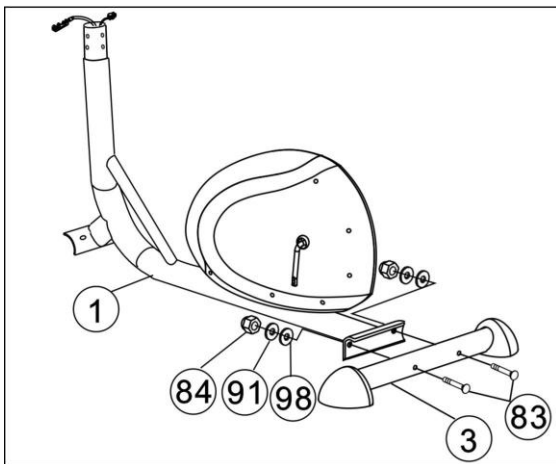

Figure 1
Attach the Rear stabilizer (3) to the Main frame (1) with two sets of M8×20 Bolts (83), Φ10 spring washers (98), washer (91) and nut (84). (Ref. figure 1)